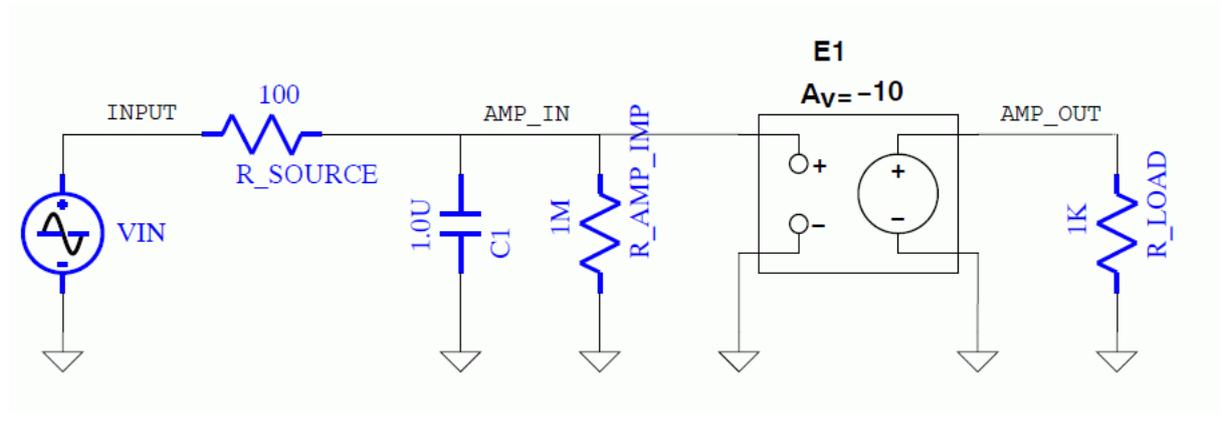

Figure 23.1: Example Circuit 1
Although different SPICE-based simulators may include various enhancements to the basic version from the University of California at Berkeley, most use a similar approach in describing circuits. This approach involves capturing the information present in a circuit schematic in the form of a text file that follows a defined format. This format requires the assignment of alphanumeric identifiers to each circuit node, the assignment of component identifiers to each circuit device, and the definition of the significant parameters for each device. For example, the circuit description below shows the equivalent input file for the circuit shown in Figure 23.1.
**3.1.2.2.2 Subcircuits** In some applications, describing a device by imbedding the required elements in the main circuit file, as is done for the amplifier in Figure 23.1, is not desirable. A hierarchical approach may be taken by using subcircuits. An example of a subcircuit statement is shown in the second circuit file: